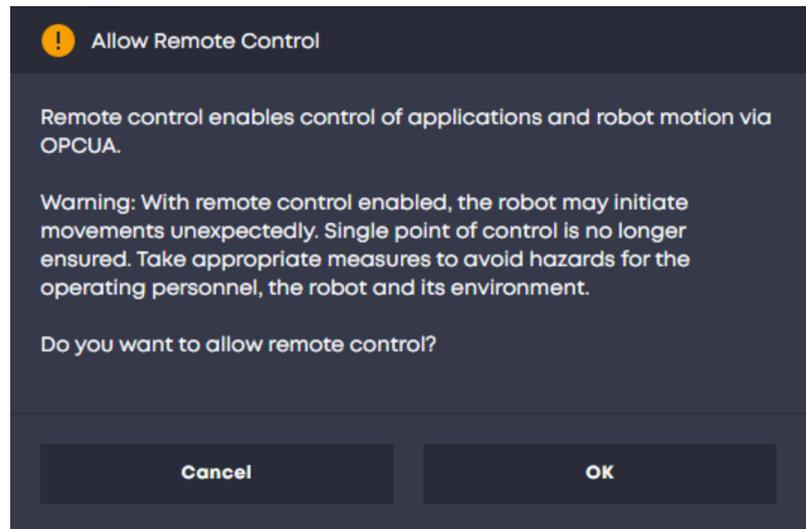

Fig. 46 Activating remote mode
02. Press 'OK' to confirm and activate remote mode Fig. 46 / ①.